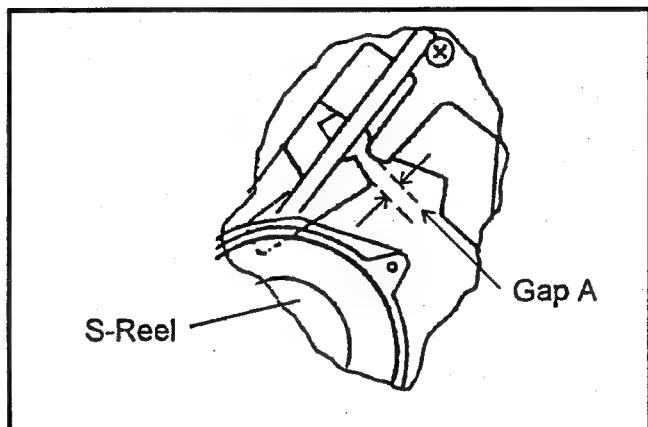

Fig. 6-20-2 M-Stopper Solenoid Adjustment
3. Observe the clearance (A) between the MECHA Chassis and the M-Stopper and make sure that it is within 1.1 to 1.3mm as shown in Fig. 6-20-2.
4. If not, loosen the 2 screws (A) and adjust the position of M-Stopper Solenoid so that the clearance (A) is within specification. Then tighten the 2 screws (A).